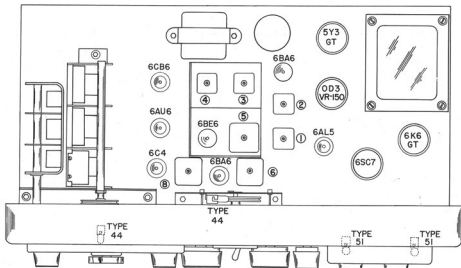

Fig. 9. Top View of Chassis Showing Location of Alignment Adjustments, Tubes and Dial Lamps
**DIAL LAMP REPLACEMENT** - Refer to Fig. 9 for the location of the dial lamps used in the receiver. To gain access to defective lamps, open the hinged top cover of the cabinet.
**TUBE REPLACEMENT** - The tube types and their relative location in the receiver are shown in Fig. 9. Access to all tubes is possible by opening the hinged top cover of the cabinet.
The I-F alignment should be made with the main tuning and bandspread tuning capacitors meshed half way, VOLUME, TONE and SENSITIVITY controls fully clockwise, NOISE LIMITER and AVC switches at OFF, RECEIVE/STANDBY switch at RECEIVE, CW/AM switch at AM and the BAND SELECTOR switch at 2. Refer to Figs. 9 and 10 for the location of all adjustments.
The R-F alignment should be made with the BANDSPREAD, VOLUME, TONE and SENSITIVITY controls fully clockwise, NOISE LIMITER and AVC switches at OFF, RECEIVE/STANDBY switch at RECEIVE, CW/AM switch at AM and the SELECTIVITY control at 3. Refer to Figs. 9 and 10 for the location of all adjustments.